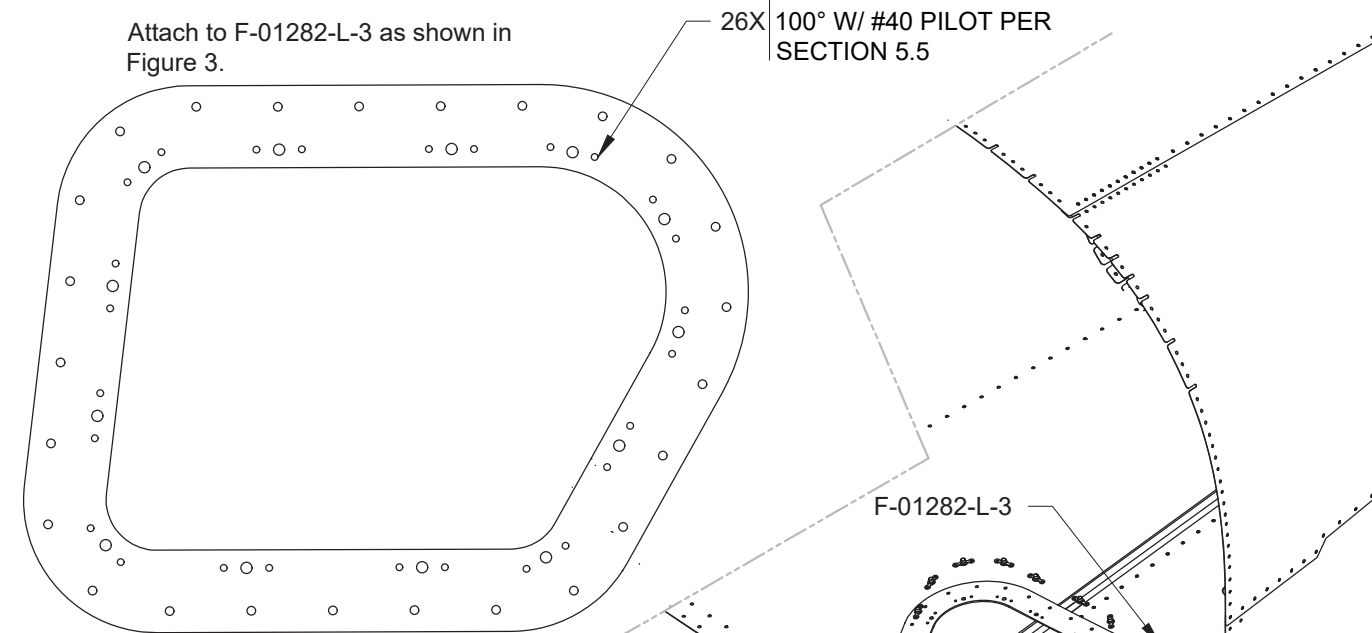

FIGURE 5:
Step 3: Machine countersink the bottom of F-12350 according to Figure 5. Ensure Orientation Matches.